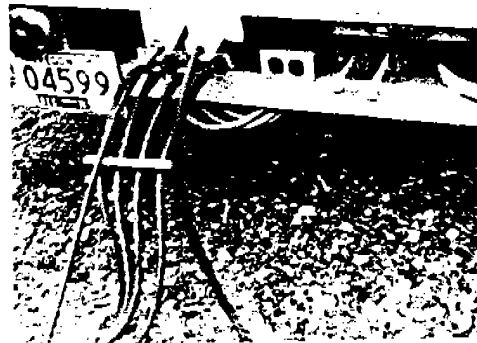

Figure 20
4. *Check all air hoses from control stand to ride.* (Fig. 20)